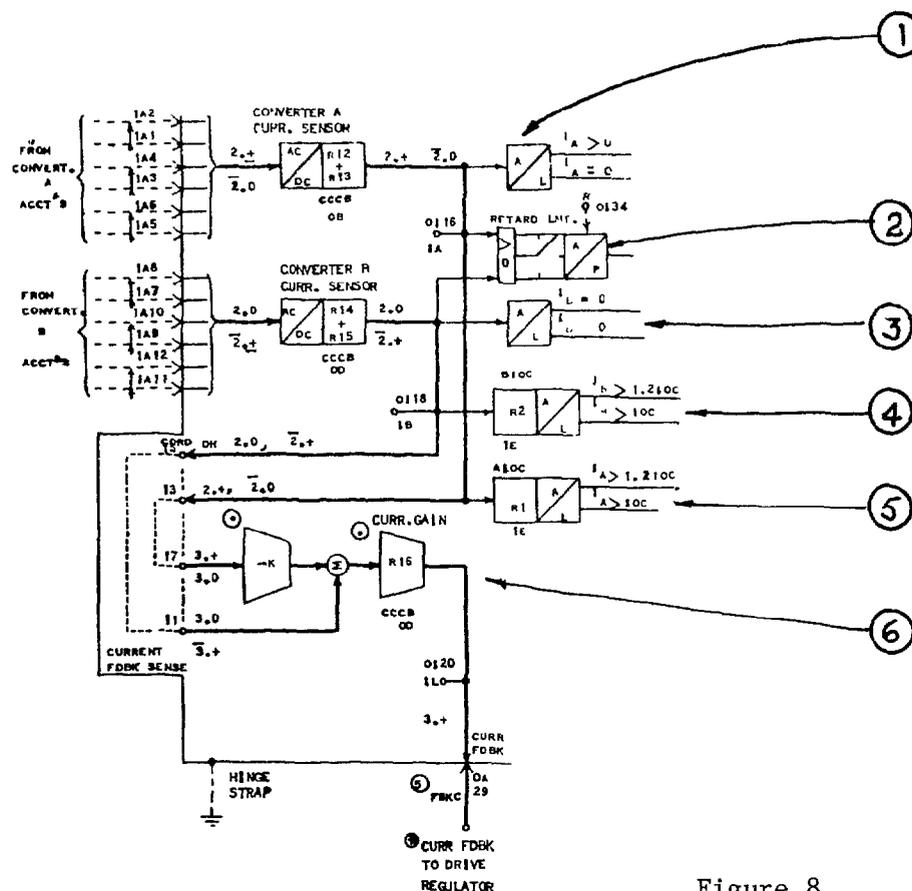

Figure 8
The outputs of the CT's are a-c and are rectified in the "AC/DC" "current sensor", as shown in the Figure 8. The nature of the CT is such that a burden resistor is required to attain a specific voltage at a specific a-c line current. These resistors (R12, R13, R14, and R15) are, therefore, selected on a per drive basis to obtain the desired output voltage for rated current.
To provide the necessary logic signals for the inverter limit and reversing logic circuitry various analog to logic signals are generated as shown in Figure 8 by symbols ① through ⑤.
① and ③ - These symbols show the generation of two logic signals each from the I_A and I_B analog signals.
⑥ - The outputs of A & B current sensors are positive voltages designated I_A and I_B and are used to generate I_L (the drive regulator current feedback signal) via two operational amplifiers. As connected on Figure 8 I_A is fed through a unity gain inverting amplifier and its output ($-I_A$) is summed with I_B . Since I_A and I_B are such that both cannot be present simultaneously, either $-I_A$ or I_B will drive the second amplifier. The gain of the second amplifier is adjustable by R16 on card CCCA slot OD to give the desired output gradient.
With the coordination card connections as shown on Figure 8 and with current flowing in package A, I_L will be a positive voltage. With current flowing in package B, I_L will be a negative voltage. This sense can be inverted by changing the pin connections 15, 13, 17 and 11 on the coordination card.